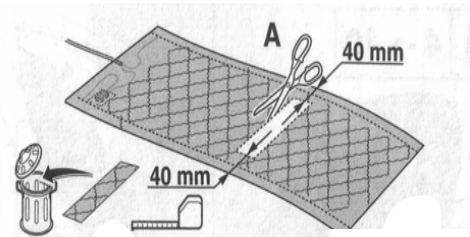

Fig 5
9. Once the area that needs to be cut out is marked, remove the heating pad from the cushion. Measure in board (towards Center of pad) on each side 40mm (9/16 in) and mark. This is necessary to ensure that the main power supply for the heating pad does not get damaged or cut. See Fig 5